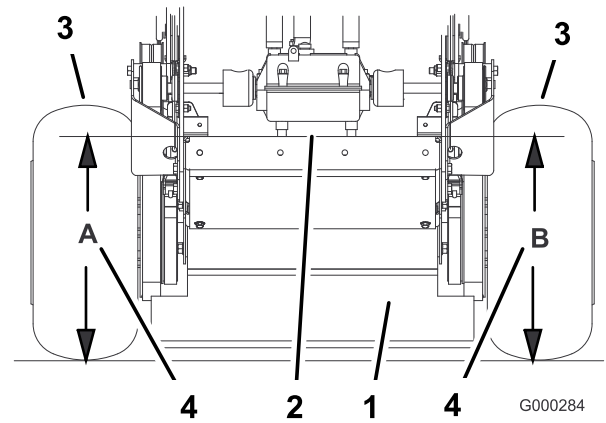

Figure 53
5. Measure engine deck height at location **B** (Figure 53).
4. Measure engine deck height at location **A** (Figure 53).